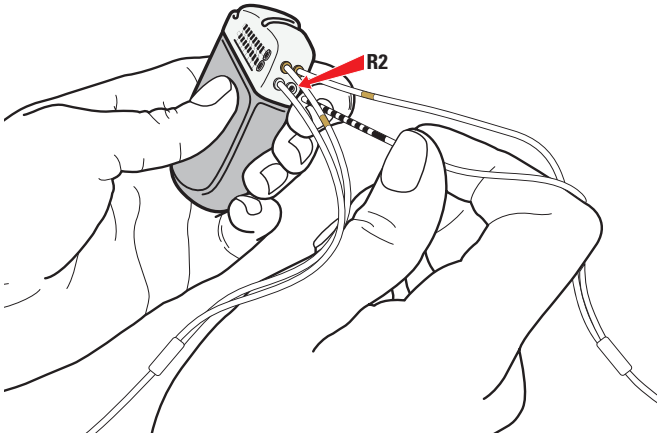

Figure 46. Connection to IPG Port R2
- b. Connect the tail with no marker band to the Port labeled R2 (Figure 46).